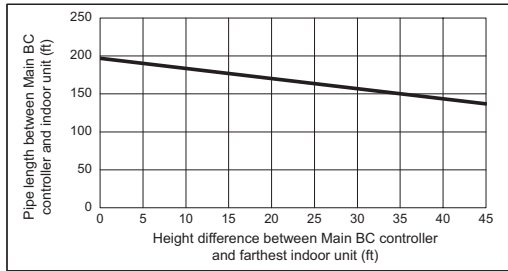

Fig. 2
*2. Details refer to Fig. 2.
*9. When the piping length or the vertical separation exceeds the limit specified in Fig. 2, connect a sub BC to the system. The restriction for a system with a sub BC connection is shown in Fig. 3. When a given system configuration falls within the shaded area in Fig. 3, increase the size of the high-pressure pipe and the liquid pipe between the main BC and sub BC by one size. When using M12, M15, M18, M36, or M48 model of indoor units, increase the size of the liquid branch pipe between the sub BC and indoor unit by one size. When using indoor models M54 or larger, the restrictions shown in Fig. 2 cannot be exceeded.
*9. When the piping length or the vertical separation exceeds the limit specified in Fig. 2, connect a sub BC to the system.
When using indoor models M54 or larger, the restrictions shown in Fig. 2 cannot be exceeded.